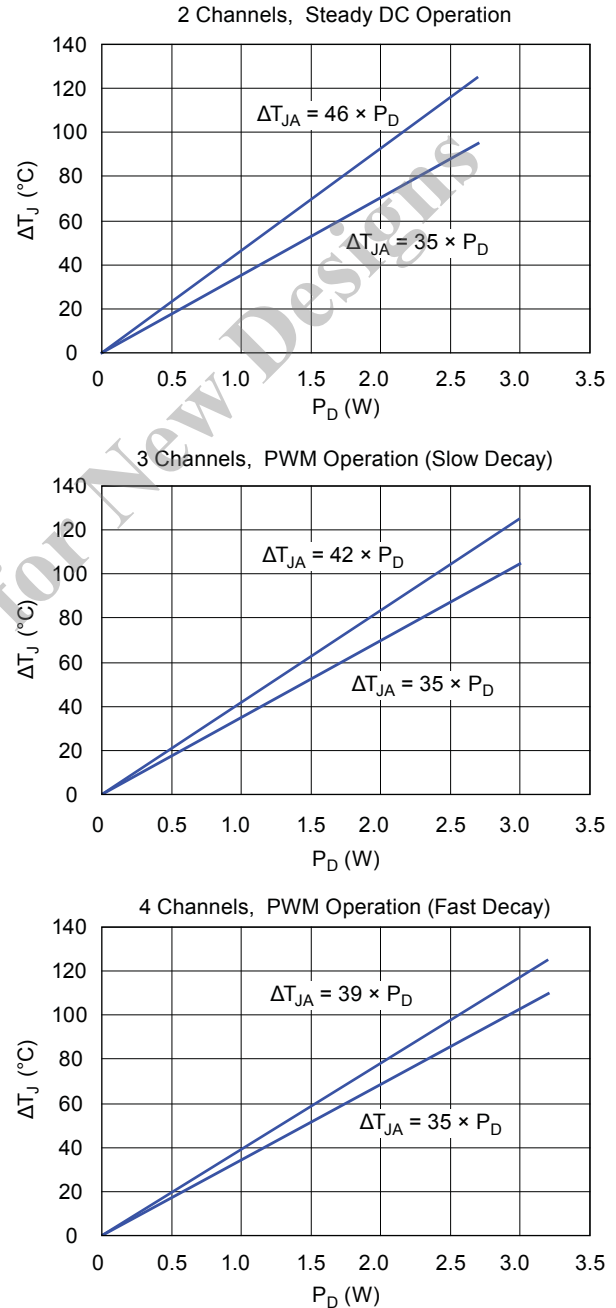

Figure 15. Change in junction temperature versus device power dissipation
Using the above calculated power dissipation, it is possible to estimate the junction temperature using the curves in figure 15. In the worst conditions (with high ambient temperatures), as long as the junction temperature does not exceed 150°C the device will not be damaged. However, the actual temperature of the device should be measured along with the junction temperature calculation.
5. Refer to figure 15 and locate the value found in step 4 on the  $\Delta T_{CA}$  trace.